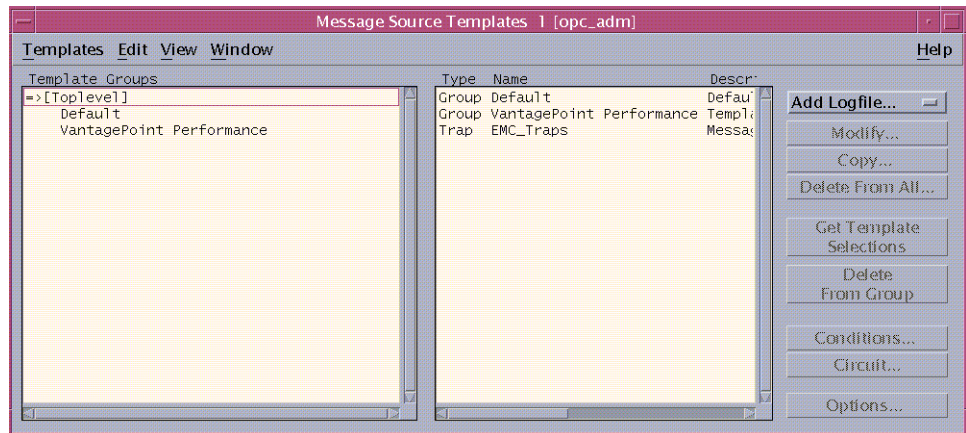

Figure 5-8 Message Source Templates
The system displays the Message Source Templates window (Figure 5-8).
1. In the Message Source Templates window, Figure 5-8, double-click **EMC_Traps**.